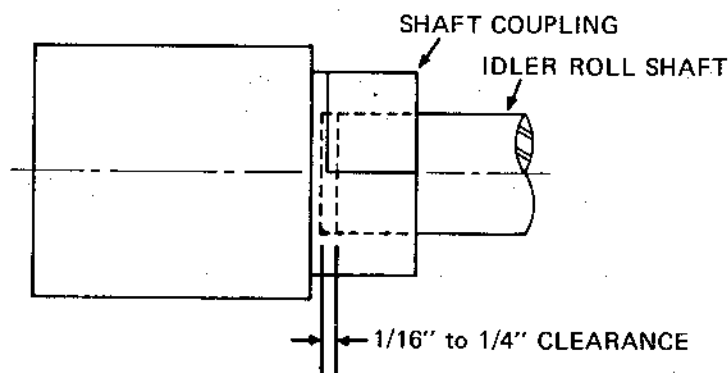

Figure 3
Step 3. Lay the idler roll shaft in the transducers. Be sure there is 1/16" to 1/4" clearance between the end of the shaft and the inside of the transducer. Install the shaft caps. **DO NOT TIGHTEN THE CAP BOLTS YET!** See Figure 3.